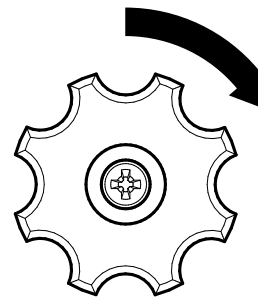

Figure 51. Propane Tank Shutoff Valve (Closed)
3. If LPG mode was in use, turn the **propane shutoff valve** clockwise (Figure 51) until closed.